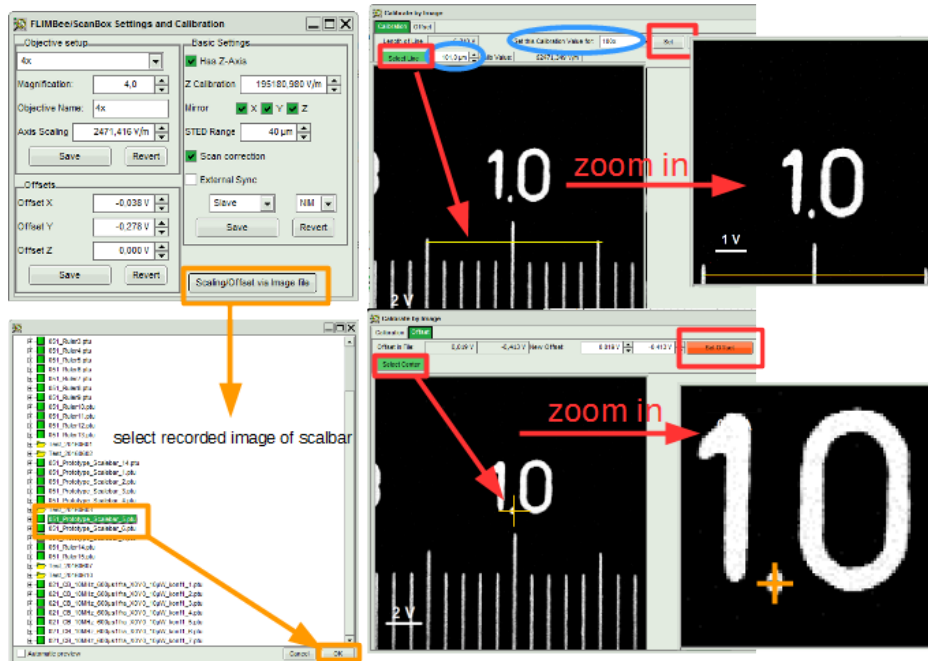

Fig. 5.6: Calibration of the objective in SymPhoTime 64 Hardware Setup
- Go back to the hardware setup and start the calibration of your new objective (see Fig. 5.6)